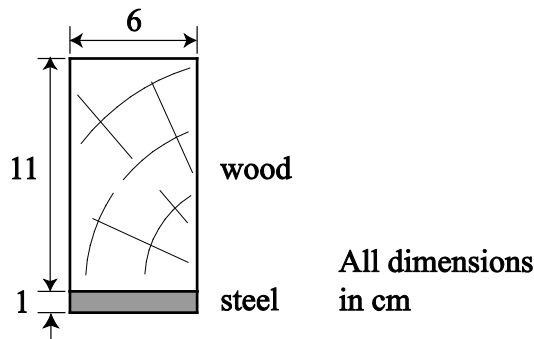

Figure 9
- * 13. (a) A composite steel/wood beam is made by securing a steel strip to one face of a softwood beam. The cross-sectional dimensions are as shown in Figure 9.